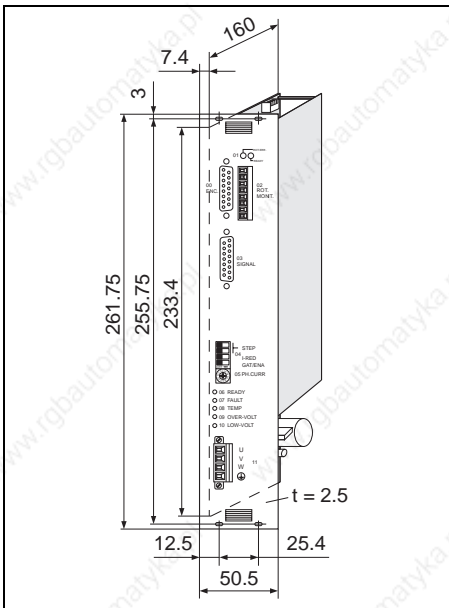
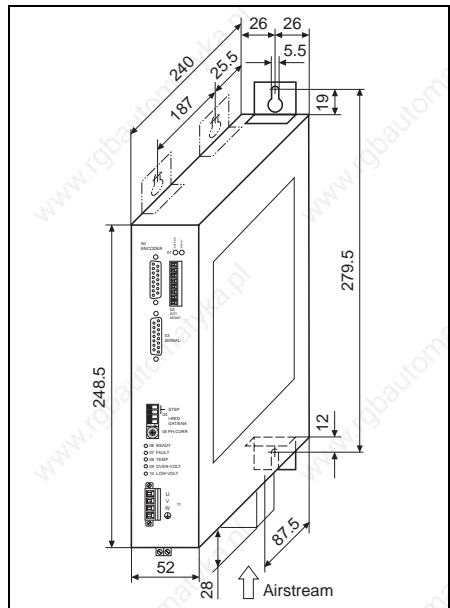

Fig. 3 Installing the D 9XX card
Fig. 4 Installing the WD3-00X unit
The D 901 or D 950 power control card is designed for installation in a 19" standard rack housing (6 HU); see figure 3. The WD3-004 and WD3-008 units have been designed for wall mounting in a vertical position in a switch cabinet. Use the mounting brackets to fit the unit to the back or left-hand side of the cabinet; see figure 4. If the unit is fitted on the left-hand side, spacers with a thickness of 2.5 mm must be inserted.
**Accessory fan** For the WD3-008 unit, the fan must be installed under the unit. The airstream must pass through the unit from bottom to top (see fig. 4). The arrow on the fan indicates the direction of the airstream if the fan is connected correctly (red = 24 VDC, black = 24 VGND).